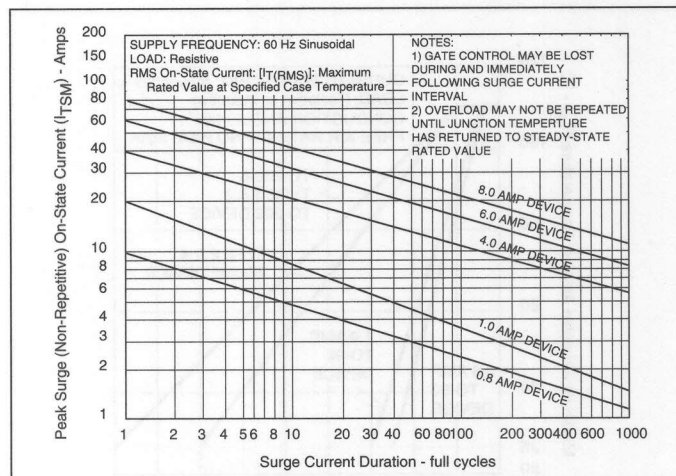

Figure 1.9 Peak Surge Current vs Surge Current Duration
- See Figure 1.9 for surge rating and specific duration.